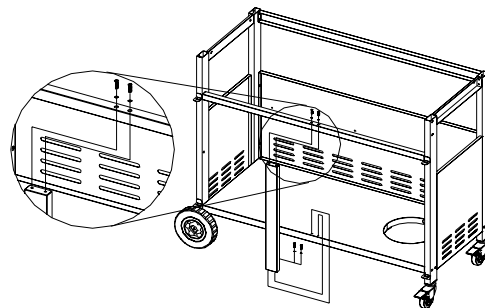

Figure 7
3. Attach the cart front support to the front cart frame beam and bottom panel using (4) $\frac{5}{32}$ x $\frac{2}{5}$ " Phillips head screw and (4) $\frac{5}{32}$ " lock washers. (Fig.7)